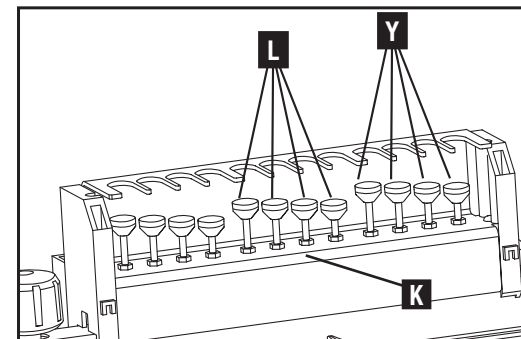

Fig. H9
- \* If using the standard half blind/sliding tapered template on the 16" OMNIJIG®, set the depth using the sliding tapered dovetail bit depth gauges at (L) Fig. H9. Pick which gauge (L) to use based on the corresponding router bit and template guide combination listed on the label at (K).
- \* If using the half blind/sliding tapered dovetail template on the 24" OMNIJIG®, then use depth gauges at (Y). These are the user defined gauges and need to be set according to the instructions found in the appendix. Raise the router bit before setting router on bit depth gauge. Slowly lower the router bit onto the gauge. Depth of cut is set when bit barely touches the gauge.